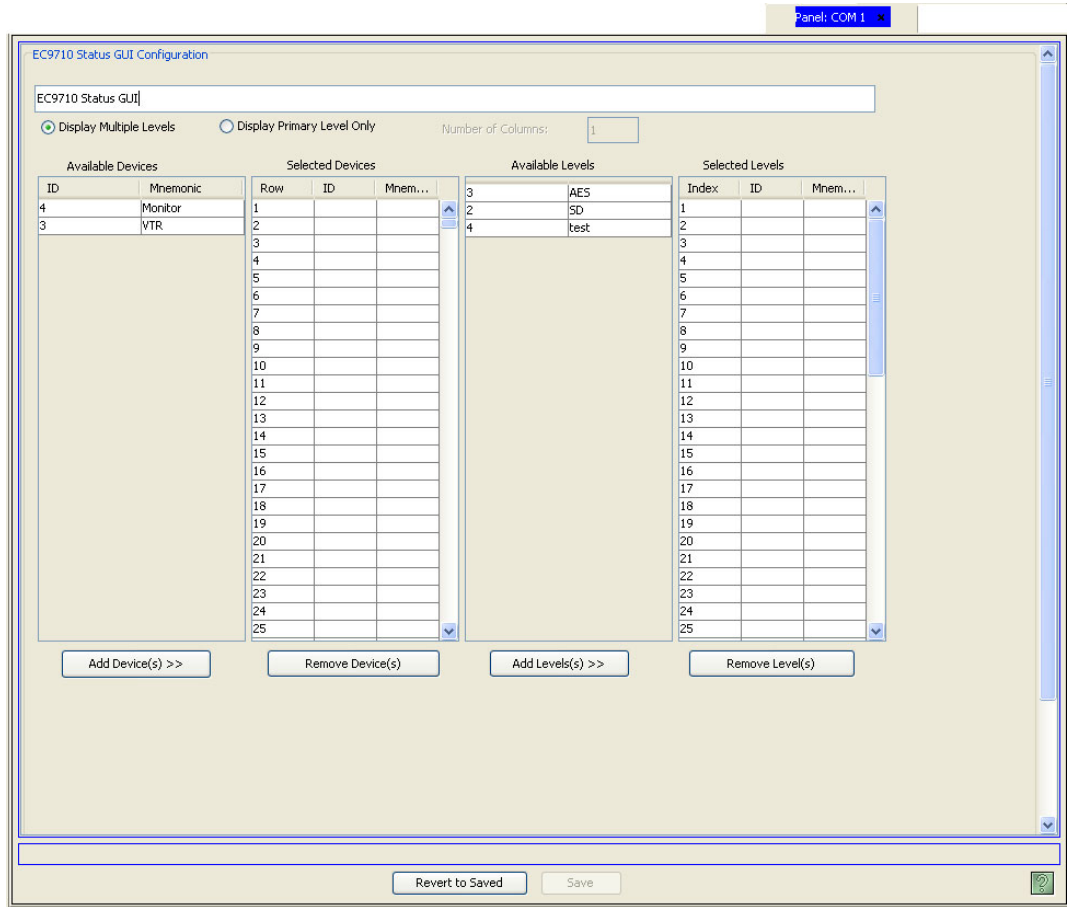

Figure 13-8. EC9710 Details Page
3 Click Add. The 'EC9700 Details' page appears, as shown in Figure 13-8.
If 'Display Multiple Levels' is selected, multiple levels can be displayed through the GUI and the 'SW Panel Details' page lists additional columns for levels, as shown in Figure 13-8.
- 7 If 'Display Multiple Levels' was selected in step 6, select level sets. The 'Available Levels' section lists all level sets currently in the NV9000-SE system by 'ID' and 'Mnemonic'. (See Figure 13-8.) Select the row listing the level set you want to add and click Add Level(s). The level set is added to the first available row in the 'Selected Levels' table.